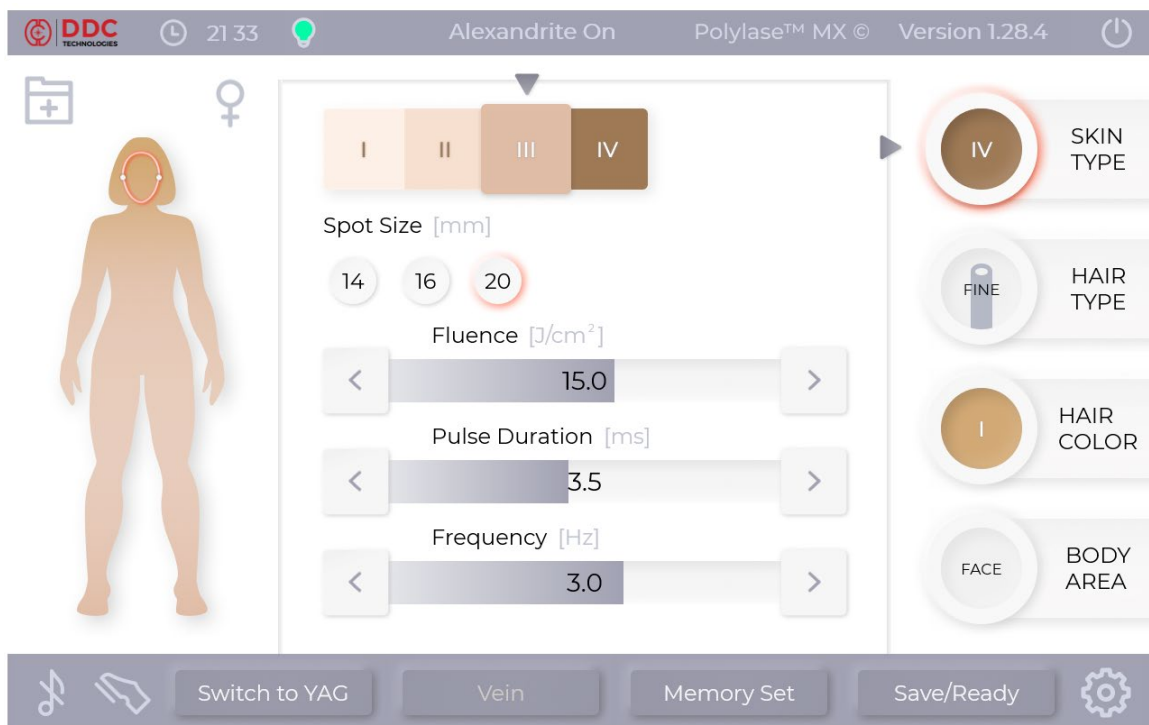

Figure 5-4. Edit Mode Screen
At this moment the cooling system pump will start, and laser lamp(s) will ignite. After the system has completed a startup and warmup cycle, laser will stay in **Edit** mode (see Fig. 5-4). In this mode laser operating parameters can be modified by the operator and the laser energy cannot be emitted.
1. Press the SKIN TYPE button and then select the Skin Type III option from the horizontal row (see Fig. 5-4)
Press Save/Ready button to switch the laser from *Edit* to *Ready* mode. The screen will change to *Ready* mode. The red sign on the LCD display will read: "LASER IS READY". In *Ready* mode the laser is armed and ready to fire. The intra-cavity shutter is open, and the laser power can be released by depressing a footswitch or a trigger button on the handpiece. The use of the footswitch or the handpiece trigger button can be selected by the  button (see Fig. 5-4, 5-6). Unless the footswitch or the handpiece trigger button is depressed, it is not possible to fire the laser in this mode. When you are ready to begin laser treatment, press the footswitch. At this moment laser energy will be delivered to the treatment area.